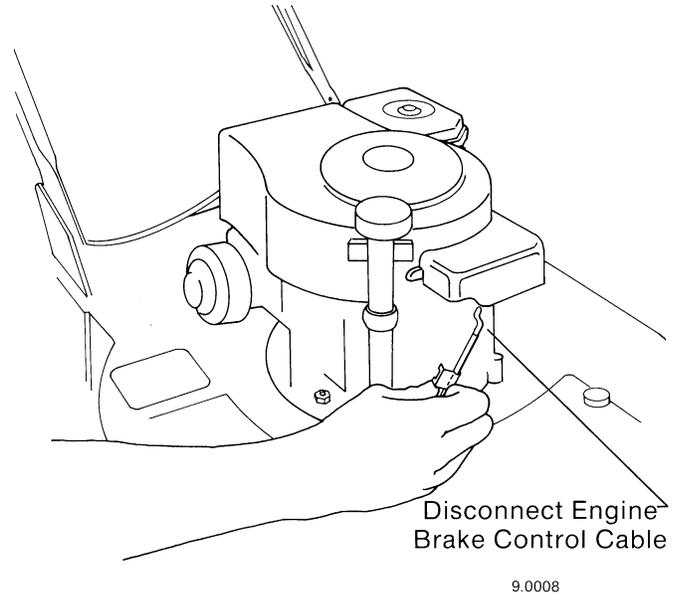

FIG. 14
- C. Disconnect engine brake control cable at engine by removing clamps, front and right side, attaching brake cable to engine. Then disconnect brake cable end from engine connection. (Fig. 14)